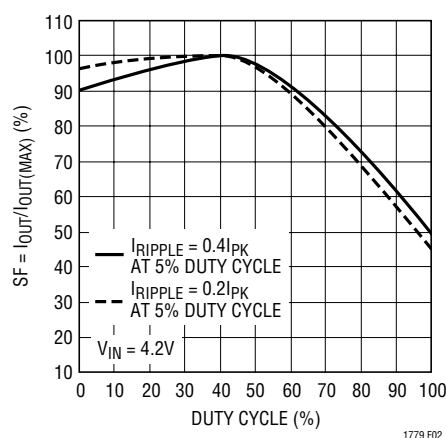
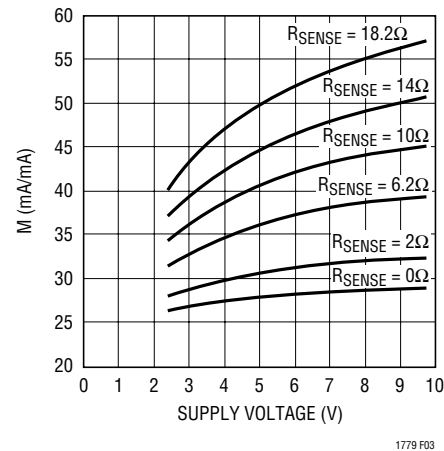
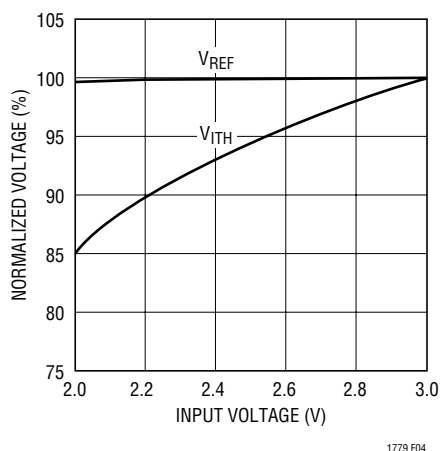

Figure 2. Maximum Output Current vs Duty Cycle
Figure 3.  $M$  vs Supply Voltage
Figure 4. Line Regulation of  $V_{REF}$  and  $V_{ITH}$
**Note 6:** Peak current sense voltage is reduced dependent upon duty cycle to a percentage of value as given in Figure 2.
when the LTC1779 is operating below 40% duty cycle. However, once the duty cycle exceeds 40%, slope compensation begins and effectively reduces the peak inductor current. The amount of reduction is given by the curves in Figure 2.
The variable  $M$  is the ratio of the total switch current to that portion of the switch current that flows through  $R_{SENSE}$ .  $M$  is a function of both  $R_{SENSE}$  and  $R_{OUT}$  of the internal power switch, which in turn, is a strong function of supply voltage. For values of  $M$  refer to Figure 3. In order to guarantee the desired  $I_{PK}$  over the full range of supply voltage, the minimum value of  $M$ , corresponding to the minimum supply voltage seen in the application, should be chosen. Note that the selection of  $R_{SENSE}$ , and hence the resulting  $M$ , is an iterative process. For most applications, a value of  $R_{SENSE}$  between  $0\Omega$  and  $20\Omega$  will be chosen.
where SF and M are as defined in the previous section, Figures 2 and 3. Typically,  $R_{SENSE}$  is chosen between  $0\Omega$  and  $20\Omega$ . Current limit is at a minimum at minimum input voltage and maximum at maximum input voltage. Both conditions should be considered in a design where current limit is important.
Choose the slope factor, SF, from Figure 2 based on the duty cycle. The ripple current calculated at minimum input voltage and the chosen L should be used in the current limit equation (see Inductor Value Calculation). Figure 3 provides several values of  $R_{SENSE}$  and their corresponding M values at different input voltages. Select the minimum input voltage and calculate the resulting minimum current limit settings.
Although the LTC1779 can function down to approximately 2.0V, the maximum allowable output current is reduced when  $V_{IN}$  decreases below 3V. Figure 3 shows the amount of change as the supply is reduced down to 2V. Also shown in Figure 4 is the effect of  $V_{IN}$  on  $V_{REF}$  as  $V_{IN}$  goes below 2.3V.